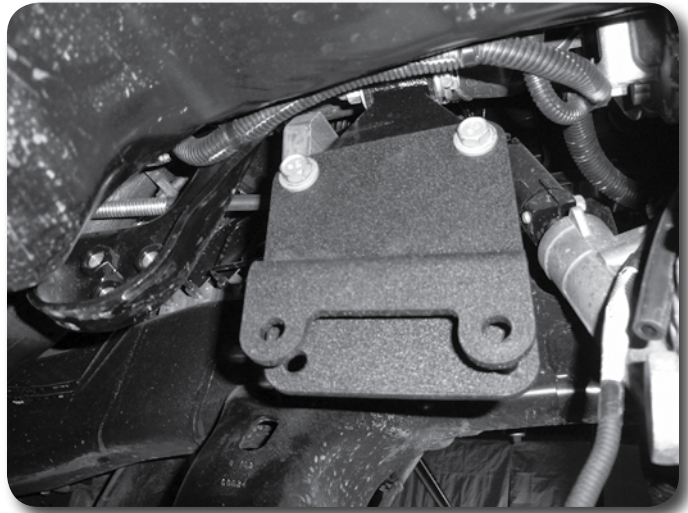

Figure. 14
33. Install the two front driver's side differential drop brackets so that the bracket with the small offset is toward the outside of the vehicle (offsetting out) and the one with the bigger offset is on the inside (offsetting in). The brackets should drop more at the front of the vehicle. Fasten the brackets to the frame with two 1/2" x 2-1/2" bolts, nuts and 1/2" SAE washers. Leave hardware loose. Figure 14